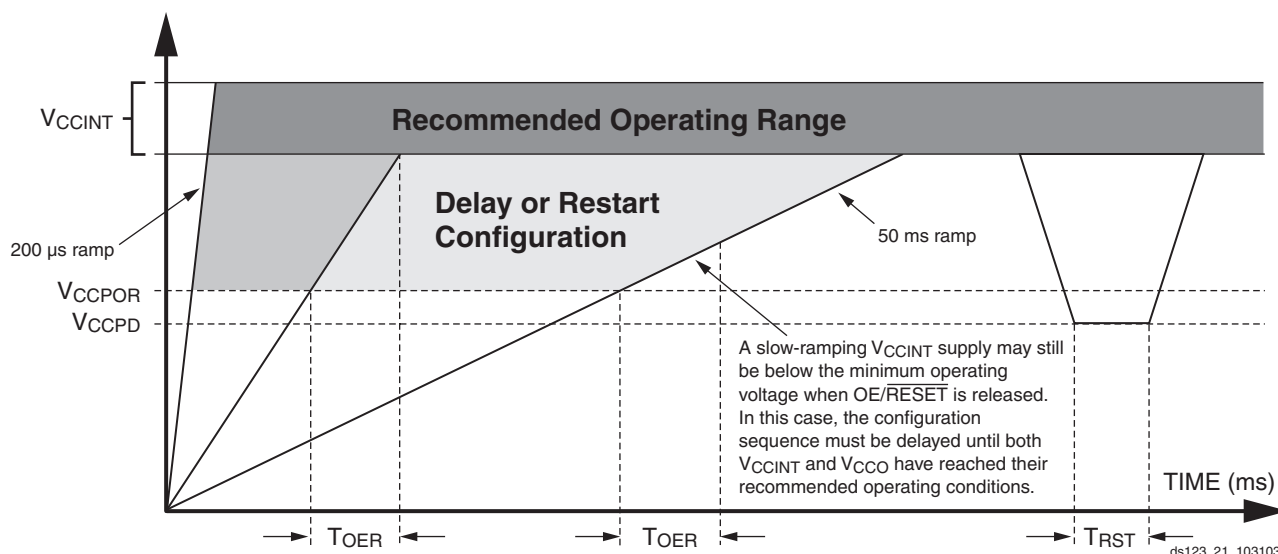

Figure 6: Platform Flash PROM Power-Up Requirements
- At power up, the device requires the V_{CCINT} power supply to monotonically rise to the nominal operating voltage within the specified T_{VCC} rise time. If the power supply cannot meet this requirement, then the device might not perform power-on-reset properly. See Figure 6, page 11.